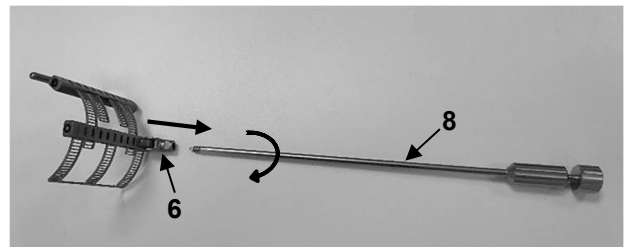

Fig. 10
To remove the MRN-3 blade guide (8), it must be completely unscrewed counter-clockwise from the thread of the joint (6) (Fig. 10).